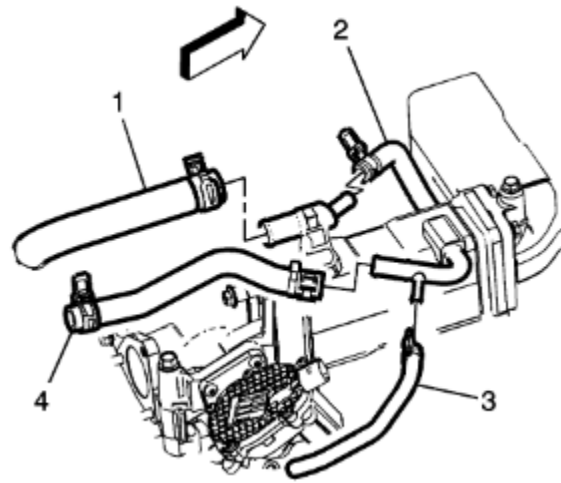

Fig. 122: EGR hose installations
- c. Connect the EGR cooling feed hoses (items 1 and 2 in figure 122), the heater water bypass hose (item 3 in figure 122), and the heater inlet hose (item 4 in figure 122).